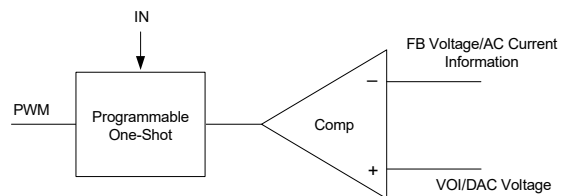

Figure 9. Simplified Control Schematic
The control algorithm of AOZ2233CQI-24 is constant-on-time PWM control with input feed-forward. The simplified control schematic is shown in Figure 9. The high-side switch on-time is determined solely by a one-shot whose pulse width is inversely proportional to input voltage (IN). The one-shot is triggered when the internal VOI/DAC voltage is higher than the combined information of output voltage and the AC current information of inductor, which is processed and obtained through the sensed low-side MOSFET current once it turns-on. The added AC current information can help the stability of constant-on-time control even with pure ceramic output capacitors, which have very low ESR. The AC current information has no DC offset, which does not cause offset with output load change, which is fundamentally different from other  $V^2$  constant on-time control schemes.